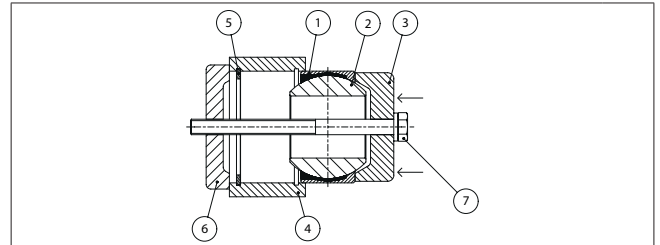

Fig.7
As shown (see Fig.7) you have to use an appropriate device (3, 6, 7) in order to apply the force on the outer ring only (1) and no forces affect the joint ball (2). Please note that bearings of the series GLK ... GLKS ..., GLE ... or GLG ... the force on the outer ring is applied to the front side only. The front side with visible windows (3) has to abut in the housing (4) on a stop collar in kind of a retaining ring (5) or on a coil (see Fig.8). On the opposite side the bearing must be held with a retaining ring.